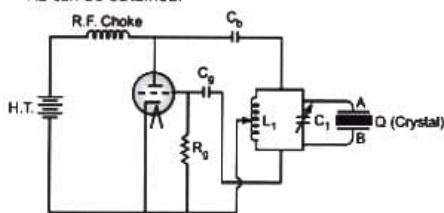

Fig. 1.7: Piezo-electric oscillator
- The experimental set up is as shown in Fig. 1.7.